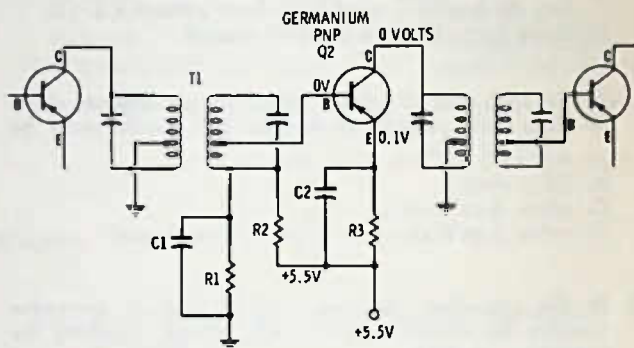

Fig. 15-12. Circuit for Question 19.
- 19. In Fig. 15-12, the voltmeter readings of this inoperative circuit are shown. What part or parts are probably the cause of the voltages shown? (Voltages measured to ground.)